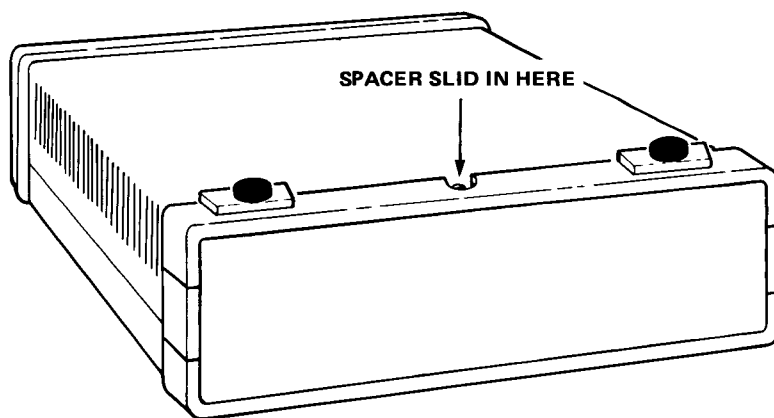

Figure B-2 Inverting the Front Panel Trim
2. Invert the trim so that the rubber feet are uppermost and replace the trim on the Extender (Figure B-2).